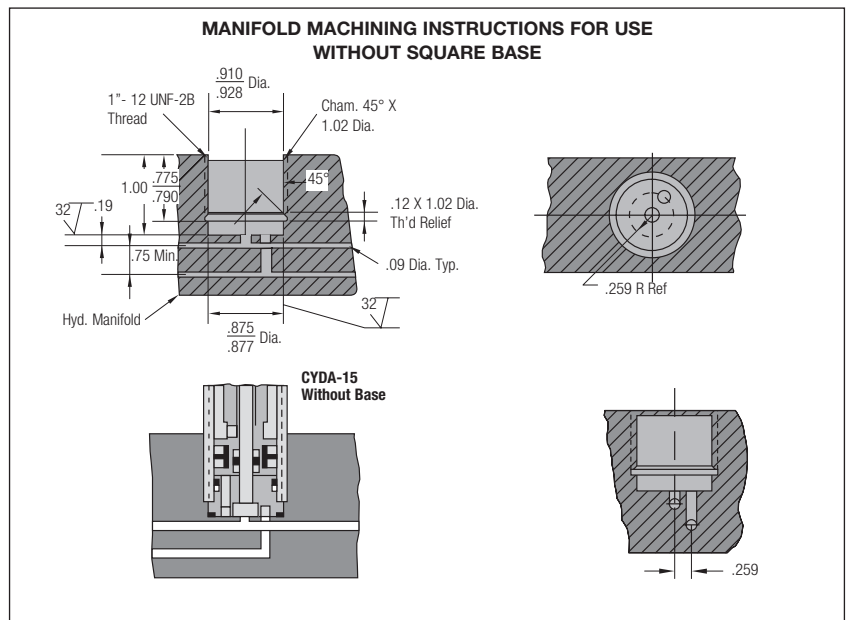

Figure 2
- All pressure ports are located at one end (base). The base can be removed and multiple cylinders can be attached to a common manifold. See Figure 2.